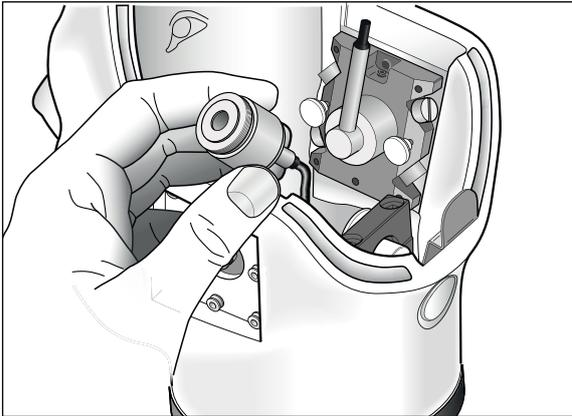

Fig. 47. Ear Simulator without Ear Canal Extension.
3. Remove the Ear Canal Extension by unscrewing it counterclockwise. (Fig. 47)